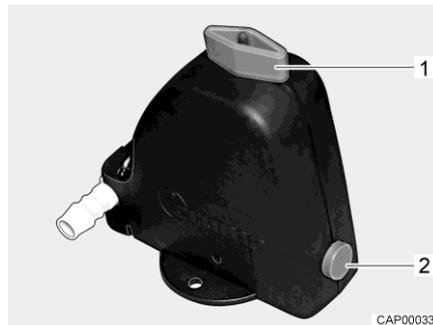

Fig. 283 Safety/drainage valve (Truma)
- Open the safety/drainage valve (Truma). To do this turn the knob (Fig. 283,1) parallel to the safety/drainage valve. The push button (Fig. 283,2) jumps out.